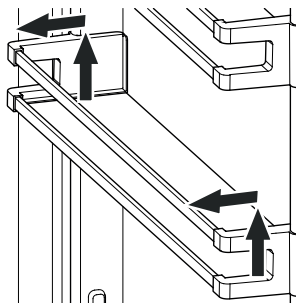

Figure 21
- Remove the door racks as shown in **Figure 21**.